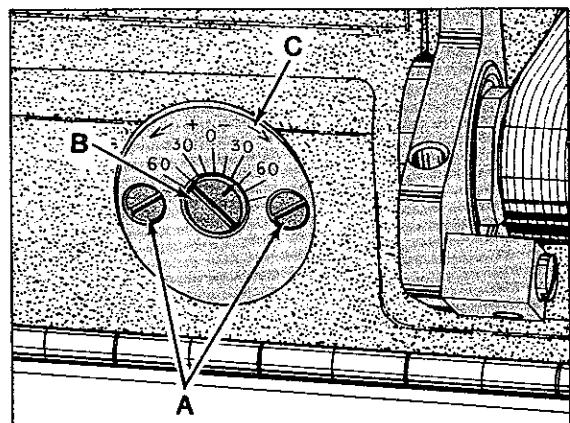

Fig. 9
Machine is equipped with a quick adjustable looper avoid to accomodate extreme differences in needle sizes. If looper avoid requires re-setting, loosen two screws (A, Fig. 9) and turn eccentric stud (B) towards the plus side (counterclockwise) for more looper avoid or towards the minus side (clockwise) for less looper avoid. When desired setting is acquired, tighten screws (A).
**NOTE:** Whenever looper avoid is changed, always recheck "LOOPER SETTINGS". Numbers on plate (C) are for reference only and have no value as to the exact amount of looper avoid.